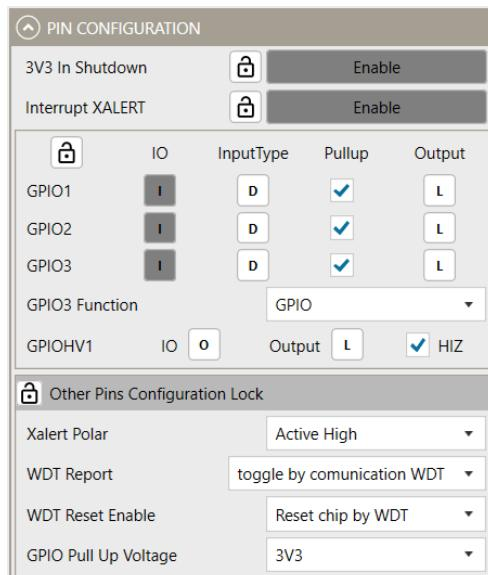

Figure 13: Pin Configuration
- Figure 13 shows how to configure the GPIO pins.